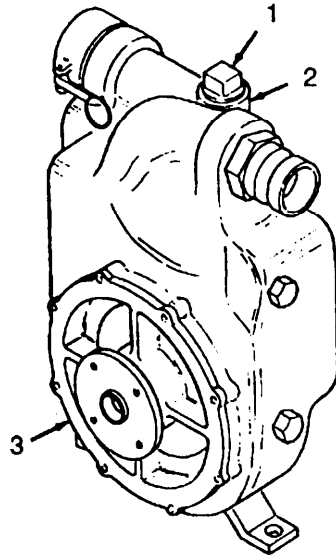

Figure 2-6. Priming Pump.
## ■ 2-8. OPERATING PROCEDURES. (Refer to Figures 2-6, 2-7, and 2-8)
- (1) Perform all before operation PMCS contained in Table 2-1. Report any problems to unit maintenance.
- (2) Refer to Figure 2-6. Remove pipe plugs (1) from priming port (2).
- (3) Pour fuel in volute (2) until volute (3) is full.
- (4) Install pipe plug (1) and tighten.